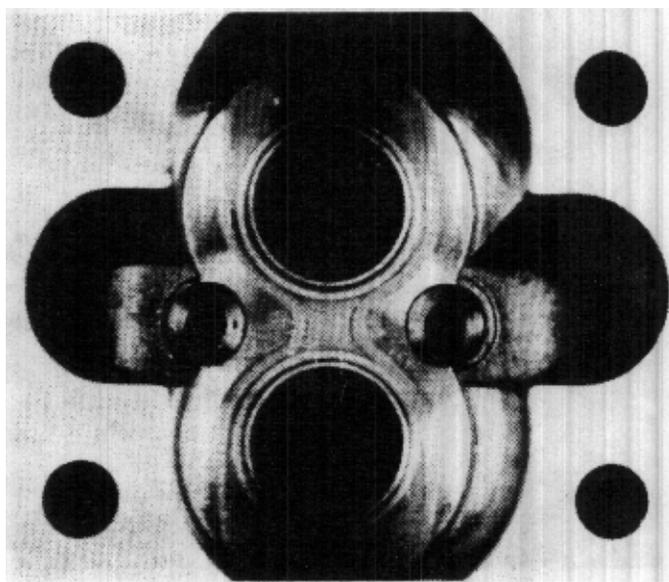

FIGURE 93
30. Install center separator (16), end separator (15) and sealing strip (17). (No separators in SPM25) (Fig. 93)